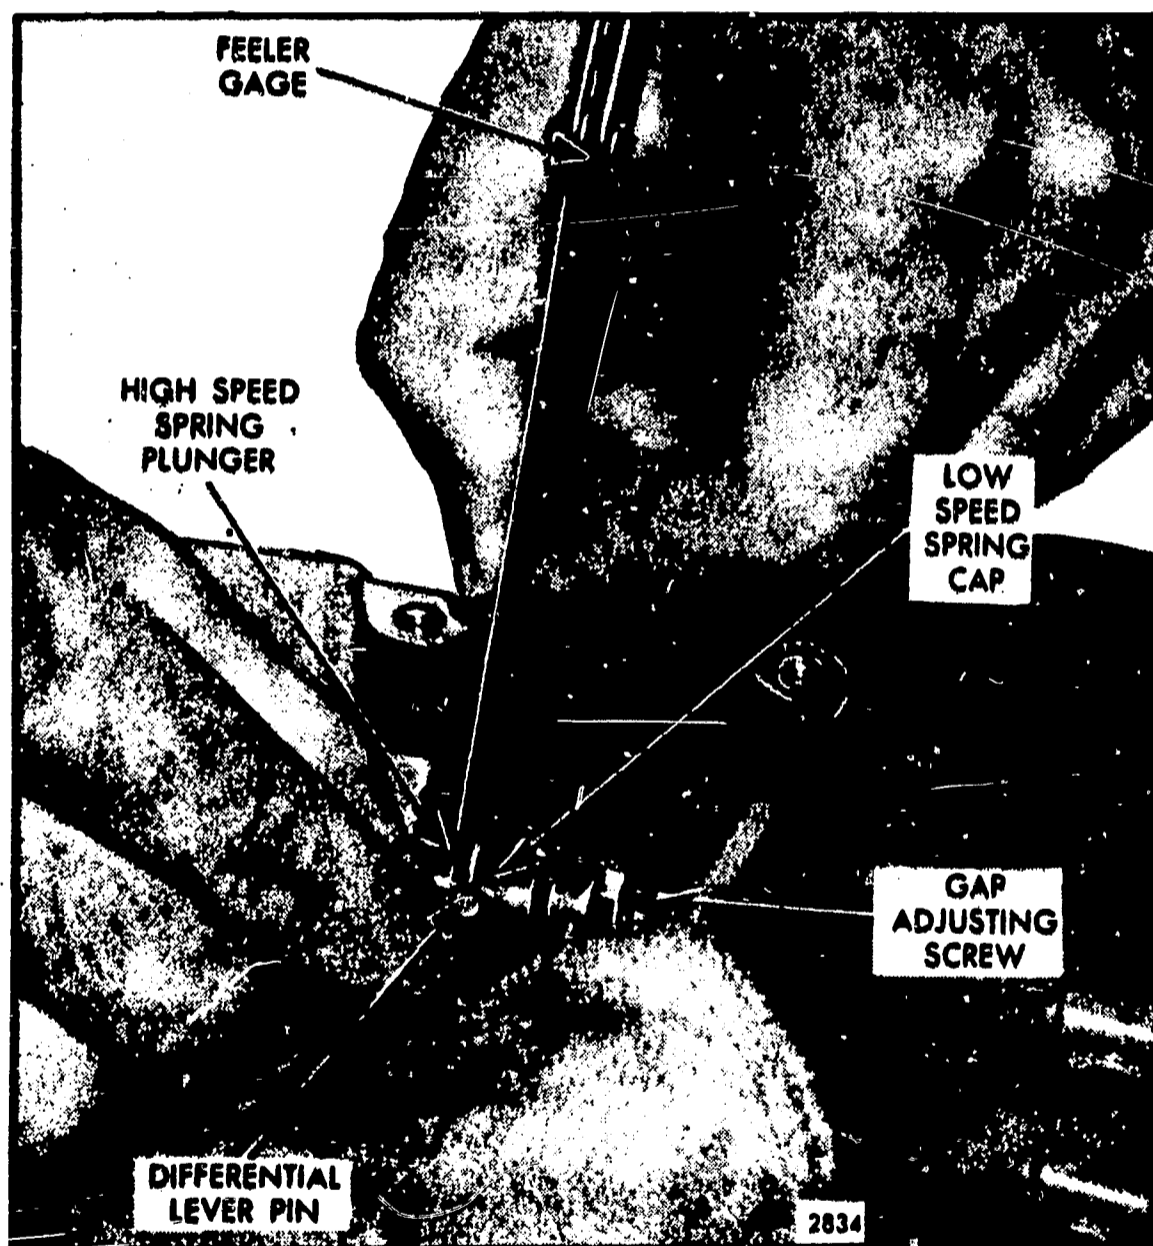

Fig. 8 - Inserting a feeler gage for governor gap.
5. Start and run the engine between 800 and 1000 rpm by manual operation of the differential lever as shown in Figure 8.